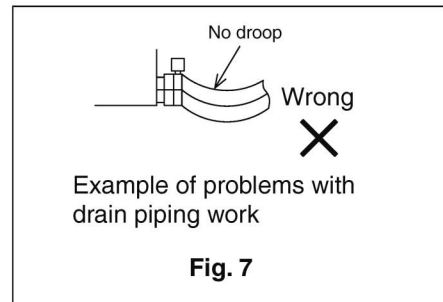

Fig. 7
- Do not allow the drain hose (4) to droop inside the BS unit. (Refer to Fig. 7.)